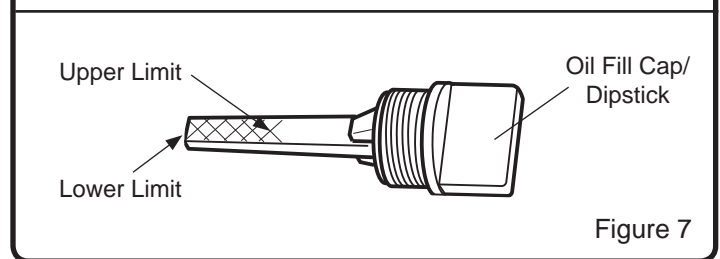

Figure 7
4. When oil level is full, the oil will be at upper limit on dipstick. If oil level is near or below the lower limit, oil must be added. (See Figure 7)